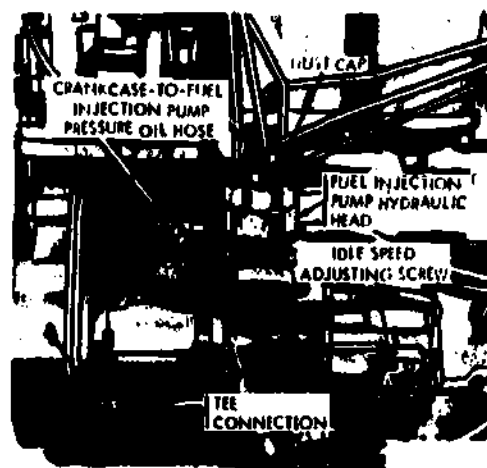

Fig 4-4. Fuel injection system.
e. Fuel injection pump (fig 4-4). Inspect the fuel injection pump, operating linkage, and connecting lines for proper mounting, external damage, and leaks. Since engine lubricating oil is used in the injector pump, you will have to be on the lookout for oil leaks as well as fuel leaks while you inspect the injector pump. Also inspect the condition of the protective dust caps at the high-pressure outlets of the injection pump hydraulic head.